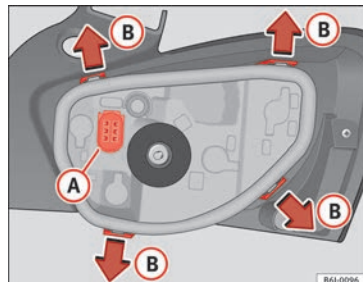

Fig. 109 Changing the tail light bulbs
- Remove the bulb holder, separating it from the casing. To do this, press tabs **(B)** in the direction of the arrows **»» Fig. 109**.